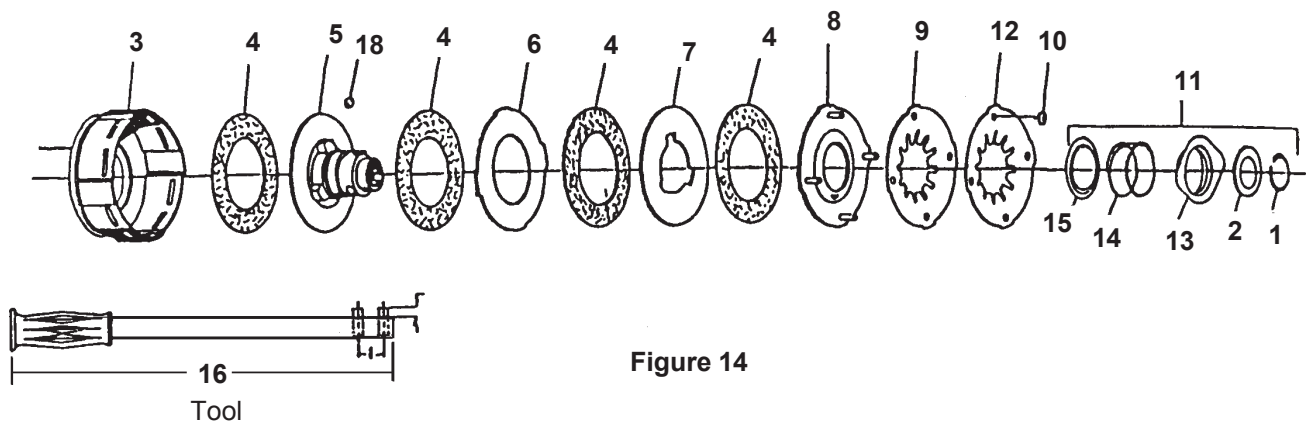

Figure 14
CLUTCH ASSEMBLY (Figure 14)
1. Remove snap ring (1). This allows removal of complete quick coupler (13,14,15,2) and three locking clutch balls (18).
2. Tighten four hex nuts (10) until spring assembly (9 and 12) are loose in main housing (3). **NOTE:** Small amount of lubricant on nut and threaded stud will avoid problem of twisting studs off.
4. Slots have been punched in outer circumference of main housing and at four equally spaced points around housing it has been deformed inward over the belleville springs. This retains the springs in housing when four hex nuts are released. These four deformed areas must be straightened out so that pressure plate assembly can be removed from housing. A special clutch service tool part number 8522 can be purchased and used to straighten deformed areas during disassembly and reform them during assembly. This tool is a bar with two pins located at one end (see Fig 14). To straighten housing place end pin on inside of clutch housing and second pin on outside of clutch housing. Apply pressure on end of bar so that pin in end of bar will straighten housing. **NOTE:** Hex nuts (10) must be tightened to release spring pressure before attempting to straighten main housing. Clutch can now be disassembled.